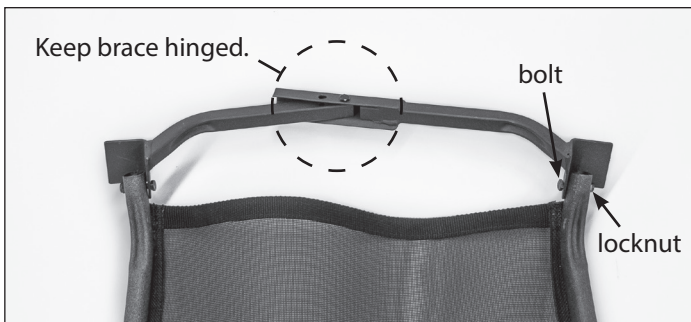

FIGURE 27 - Insert (2) 1/4-20 x 1-1/2" bolts
- Insert (2) 1/4-20 x 1-1/2" bolts through the front hinged brace and each side rail, and finger tighten locknuts. **SEE FIGURE 27.** Brace should remain hinged.